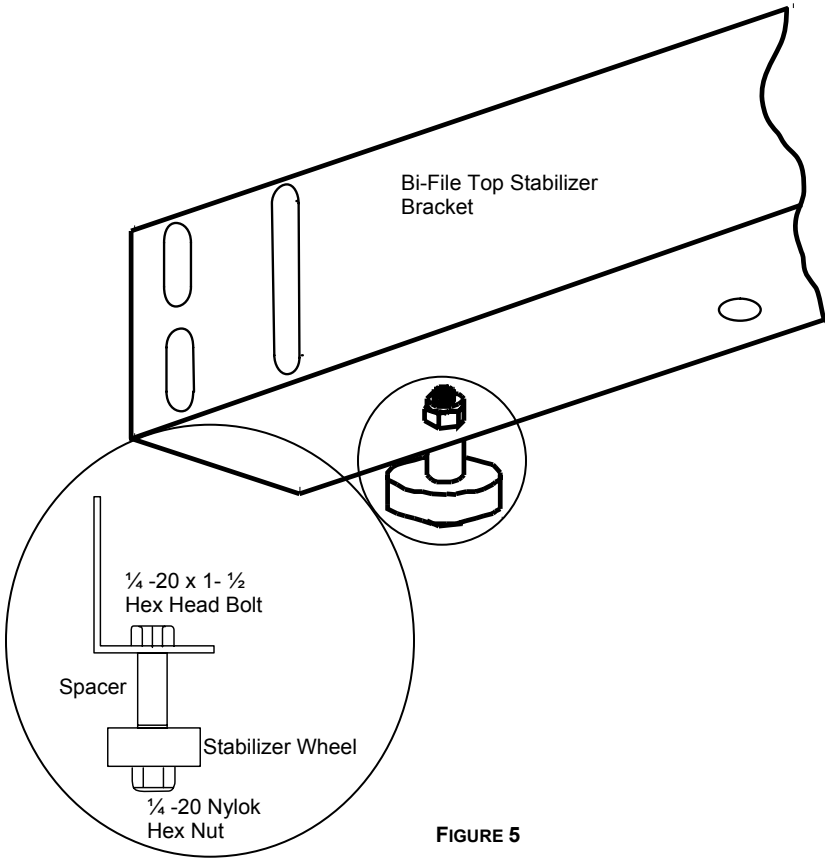

FIGURE 5
STEP 1 Assemble the Stabilizer Wheel to the Bi-File Top Stabilizer Bracket at both ends of this bracket, using the outer holes. Use the following hardware: two (2) 1/4 -20 x 1- 1/2 hex head bolts, two (2) 1/4 -20 nylok hex nuts, two (2) Spacers, and two (2) Stabilizer Wheels. **See Figure 5.**